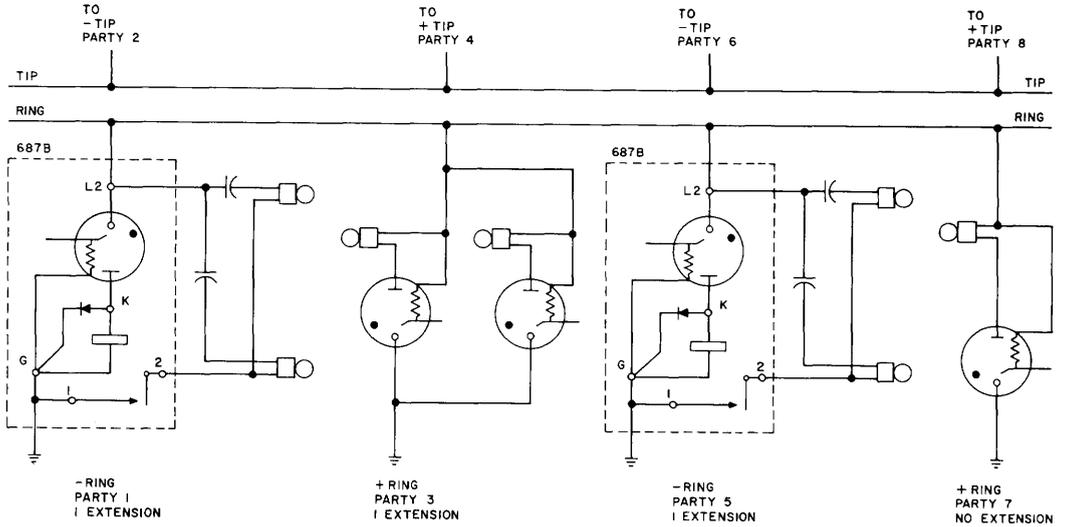

Fig. 7—Application of 687B Subscriber Set
5.05 Fig. 7 shows examples of 687B subscriber set application to an 8-party semiselective line with no inductive interference.
5.06 For example, to install ringer at party 5 (Fig. 7), use 687B subscriber set at party 5 *and* at party 1.
5.07 Fig. 7 shows four tube controlled, high-impedance capacitor ringing bridges connected for negative polarity on the ring side of the line.
5.08 To install an extension ringer connected for positive polarity at party 7 (Fig. 7), use 687B subscriber set at both party 7 and party 3.